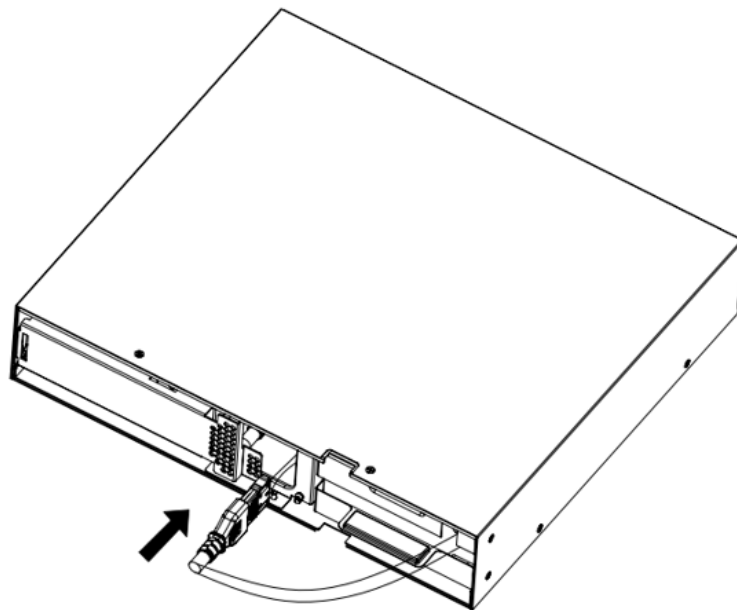

Figure 15: Connect the First Internal Battery Cartridge Connector
11. Pull both battery cartridge connectors through the middle hole in the chassis, connect a battery cartridge to each connector (see Figure 15). Press the connector tightly together to ensure a proper connection. Connect the other battery cartridge in the EBP. Both internal battery cartridges should be connected. Press each connector tightly together to ensure a proper connection.